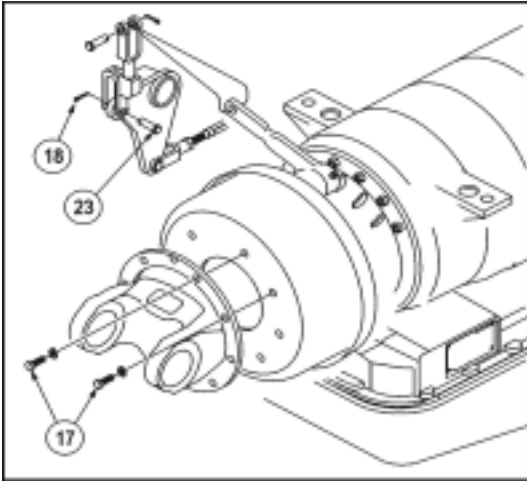

Figure 5—Mechanical Park Brake and Yoke Assembly
1. Remove capscrew (17) and lockwasher from eight places. Do not remove the yoke from the universal joint. **Figure 5**.
2. Remove cotter pin (18).
3. Remove Clevis pin (23).
1. Remove high-pressure hose assembly (18) from 45° elbow fitting (13). **Figure 5**.
2. Remove return hose assembly (19) from 90° fitting (14).